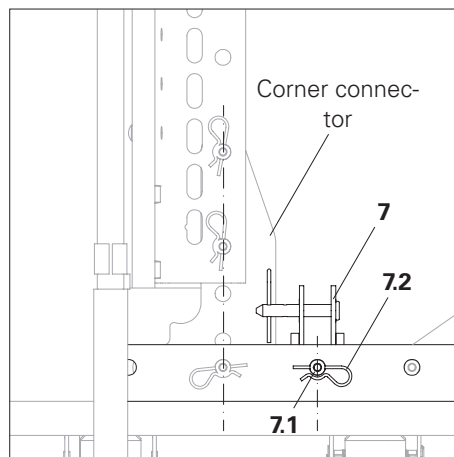

Fig. 05a
- is mounted on the horizontal external Steel Waler Universal SRU U120 (**B**) in the hole next to the corner connector. (Fig. 05a)